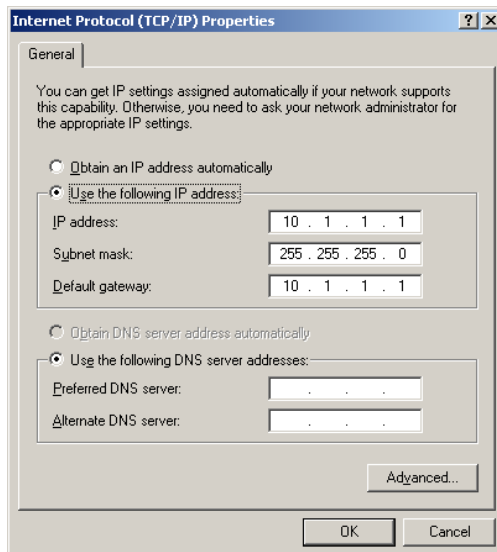

Figure 4. The Internet Protocol (TCP/IP) Properties dialog box.
6. Now the "Internet Protocol (TCP/IP) Properties" dialog should be displayed. Select "Use the following IP address:". Enter "10.1.1.1" in the IP address box, "255.255.255.0" in the subnet mask box, and "10.1.1.1" in the default gateway box. The dialog should now look like that of Figure 4. Click "OK".